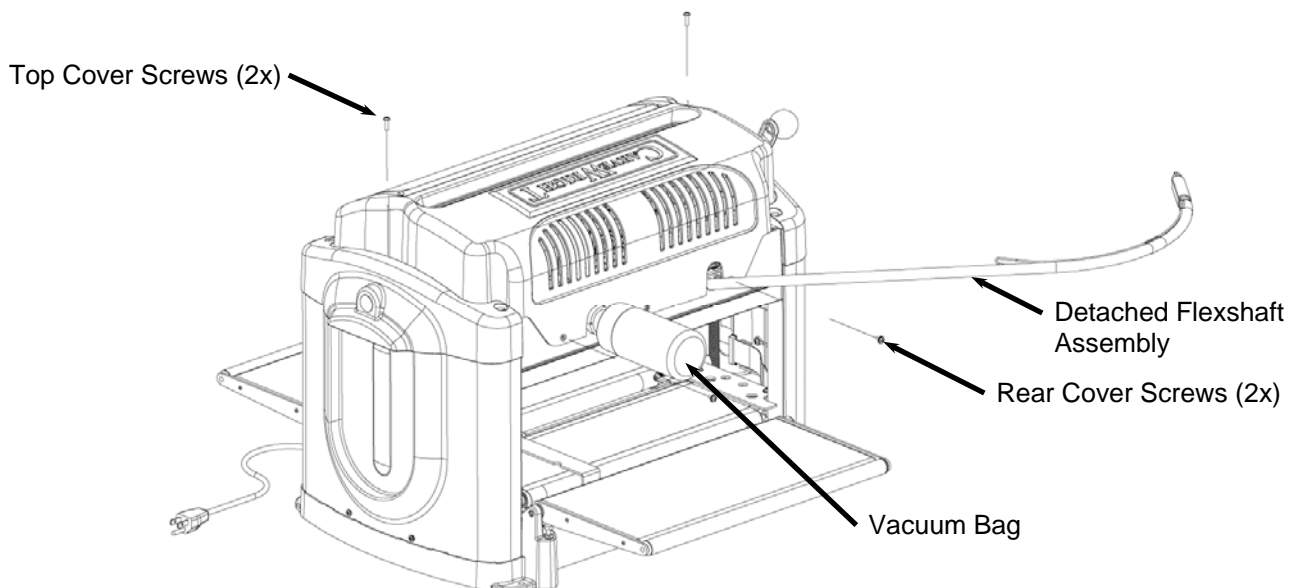

FIGURE 4: EXPLODED VIEW OF THE COVER SCREWS
4. **Remove the machine cover screws.** Remove the four cover screws as shown in Figure 4 with the #2 Phillips screwdriver. Use a magnetic tipped screwdriver if possible to avoid dropping the screws into the machine.
- e. Replace the four screws as shown in Figure 4. The two long screws go in the vertical locations.